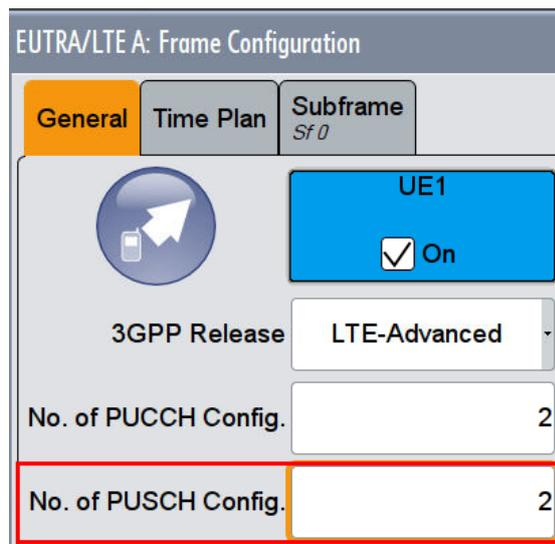

Fig. 3-124: Set two configurable PUCCH subframes
4. Set **No of PUCCH Config** to 2 (Fig. 3-124)